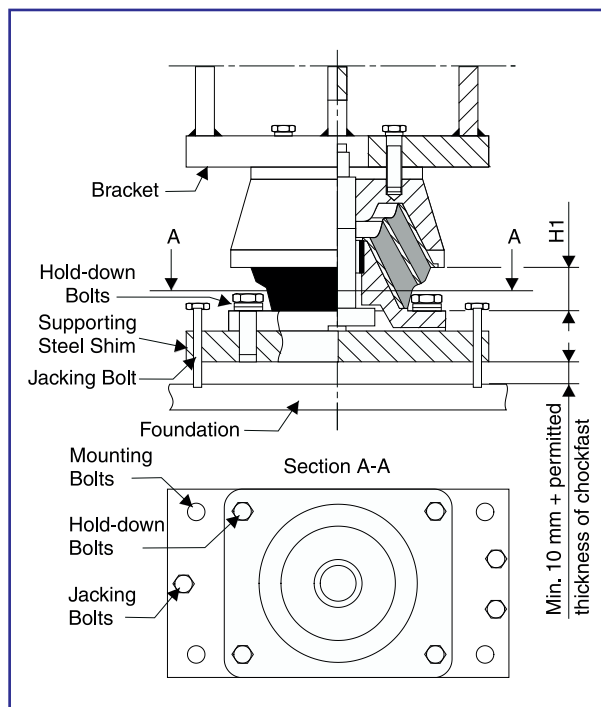

Fig 2 Conical mounting.
A supporting steel shim with a minimum height of 40 mm, complete with tapped holes for three jacking bolts, four mounting holes and four tapped holes, drilled according to the conical base casting dimension, is required see fig 2.
- 3) Position the supporting steel shim as per fig 2 and locate the conical element by means of four hold-down bolts.
- 4) Position the three jacking bolts in the tapped holes in the supporting steel shim as per fig 2.
- 5) Position the jacking bolts with a through-going of minimum 10 mm plus permitted thickness, as specified from the chockfast supplier, see fig 2.
After the conical elements have been deflected under static load for 48 hours, the laden height (H1) see fig 2, should be measured and compared to the recommended laden height.